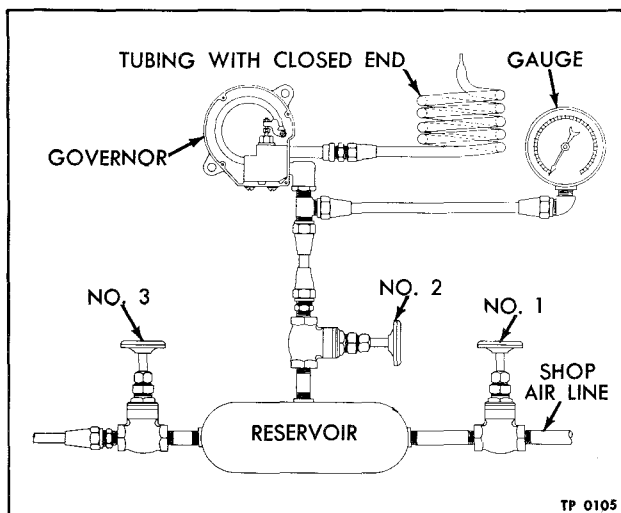

Figure 27—Governor Test Hook-up
The governor may be tested either on the bench or in the vehicle. The hook-up for testing on bench is shown in figure 27 and the procedure is as follows:
1. Connect governor as shown in figure 27 with all air cocks closed. Remove cover from governor.
2. Open air cock (1), charging reservoir to full line pressure.
3. Crack air cock (2) and note pressure on gauge when governor cuts out.
4. While governor is in cut-out position, apply soap suds to exhaust port (6). If leakage is sufficient to cause more than a 3-inch diameter bubble in three seconds, upper valve should be resealed.
5. Close air cock (1) and crack cock (3), releasing pressure slowly. Note pressure at which governor cuts in and close cock (3) immediately to retain pressure on governor in cut-in position. Apply soap suds to test lower valve leakage.